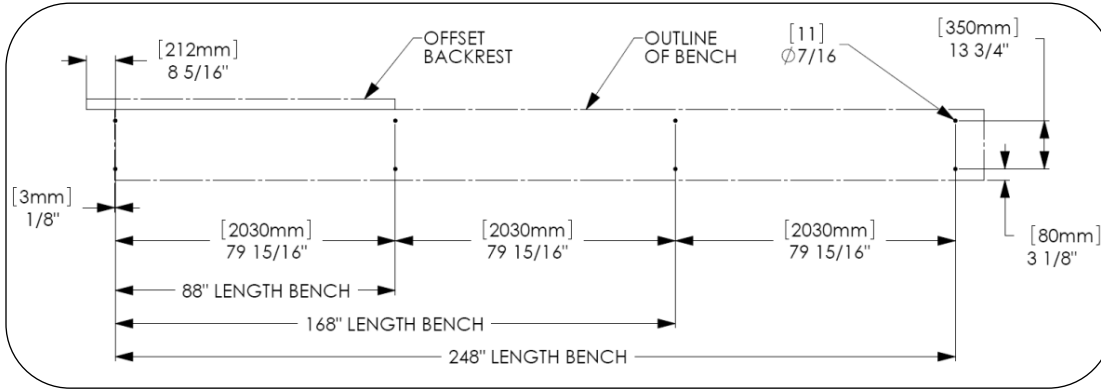
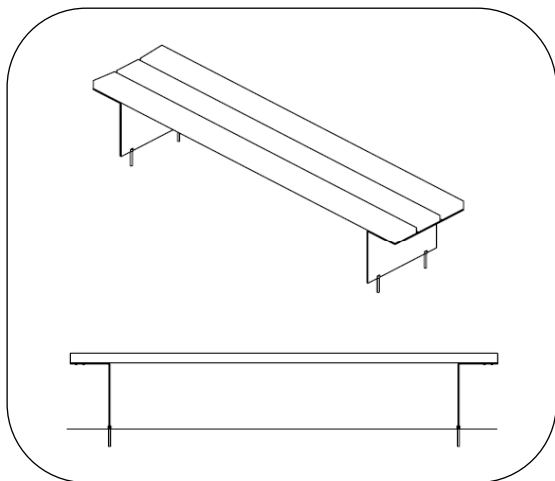

Fig. 2 – Anchor locations
Fig. 10 – alternate support orientation
1. Drill holes as shown in Fig. 2 as required per specified bench. Clear holes of debris.
The 88in backless bench is designed to be used with the Bancal 88in picnic table. End supports can be installed as shown in Fig. 10 to align with table supports. For this installation option, refer to table installation guide for recommended spacing. Bench should be assembled and set in place to mark hole locations for anchoring. Do not use spacing dimensions noted in Fig. 2 when installing the bench with the table.